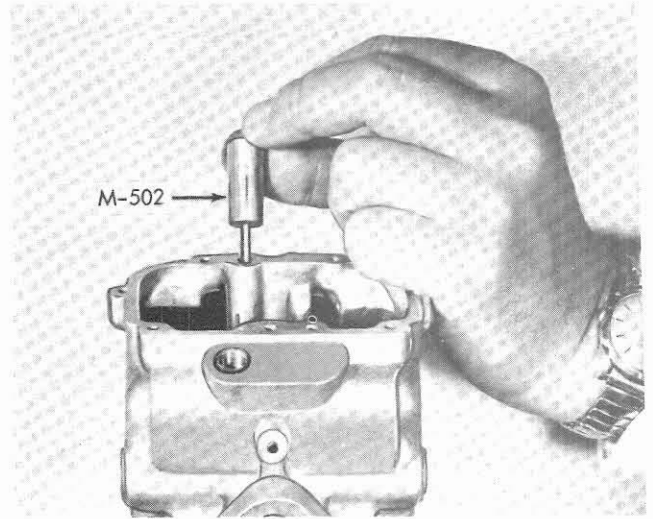
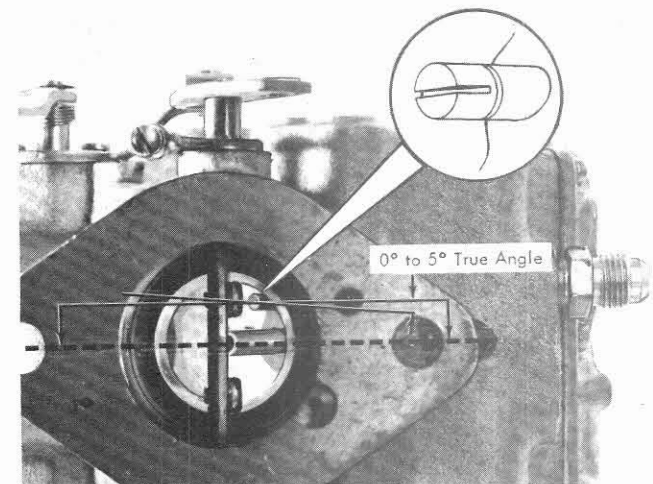

Figure 2-12. Locating Pump-Discharge Valve Prior to Driving It Into Final Position
Figure 2-14. Pump-Discharge Valve Properly Located
(1) Using tool (Part No. M-502) which has a tang that fits into a slot in the base of the jet (figure 2-12), rotate the jet to position the discharge seat as shown in figure 2-14.
(3) The final location is as shown in figure 2-14, with the slot tolerance 0° to 5° true angle from parallel with centerline of carburetor.